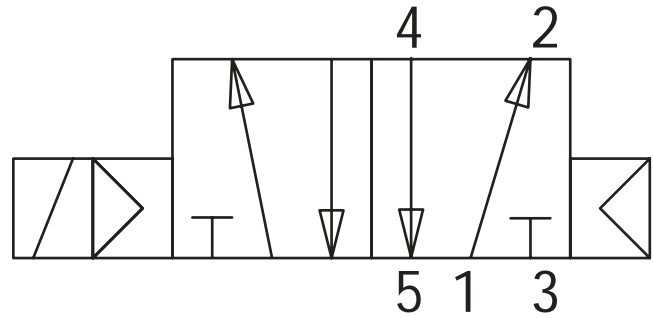
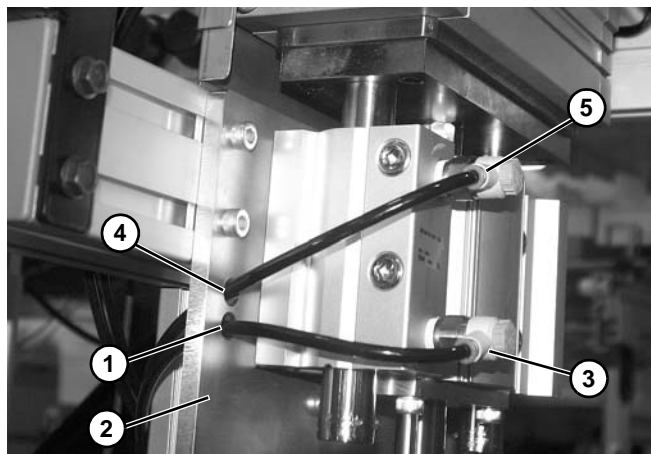
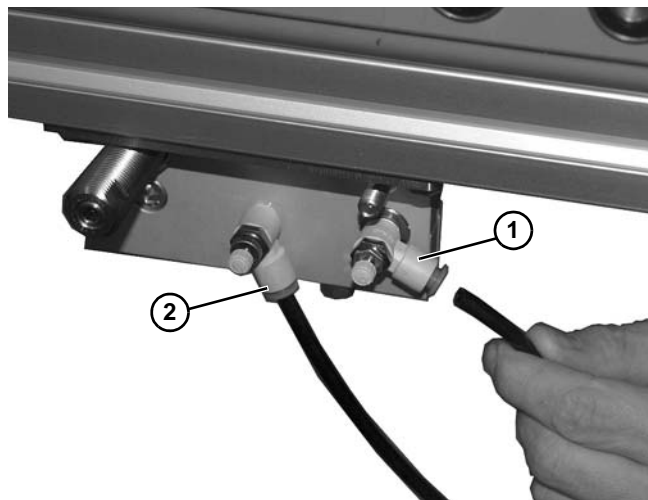

Figure 63
Figure 66
Figure 72
Dorner recommends using a 5 port, 2 way solenoid valve (**Figure 63**) to operate the cylinder.
1. Connect Port 4 (**Figure 63**) of the 5-port 2-way solenoid through the lower opening (**Figure 66, item 1**) in plate (**Figure 66, item 2**) and to the lowest port (**Figure 66, item 3**) on the lift. Dorner fittings accept 1/4" outside diameter tubing standard.
2. Connect Port 2 (**Figure 63**) of the 5-port 2-way solenoid through the upper opening (**Figure 66, item 4**) in plate (**Figure 66, item 2**) and to the upper port (**Figure 66, item 5**) on the lift. Dorner fittings accept 1/4" outside diameter tubing standard.
2. Connect Port 4 (**Figure 63**) of the 5–port 2–way solenoid through the outer port (**Figure 72, item 1**) on the pallet pusher. Dorner fittings accept 1/4" outside diameter tubing standard.
3. Connect Port 2 (**Figure 63**) of the 5–port 2–way solenoid through the center port (**Figure 72, item 2**) on the lift. Dorner fittings accept 1/4" outside diameter tubing standard.